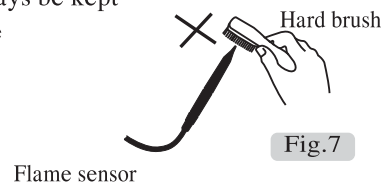

Fig.7
8. Don't clean the top of the sensor with a hard brush, as it may damage the sensor. (Fig 7)
2. The safety sensor is delicate, it should always be kept clean and dry system and please do not use stiff brushes or rough cleaning pads for cleaning. (Fig 7)